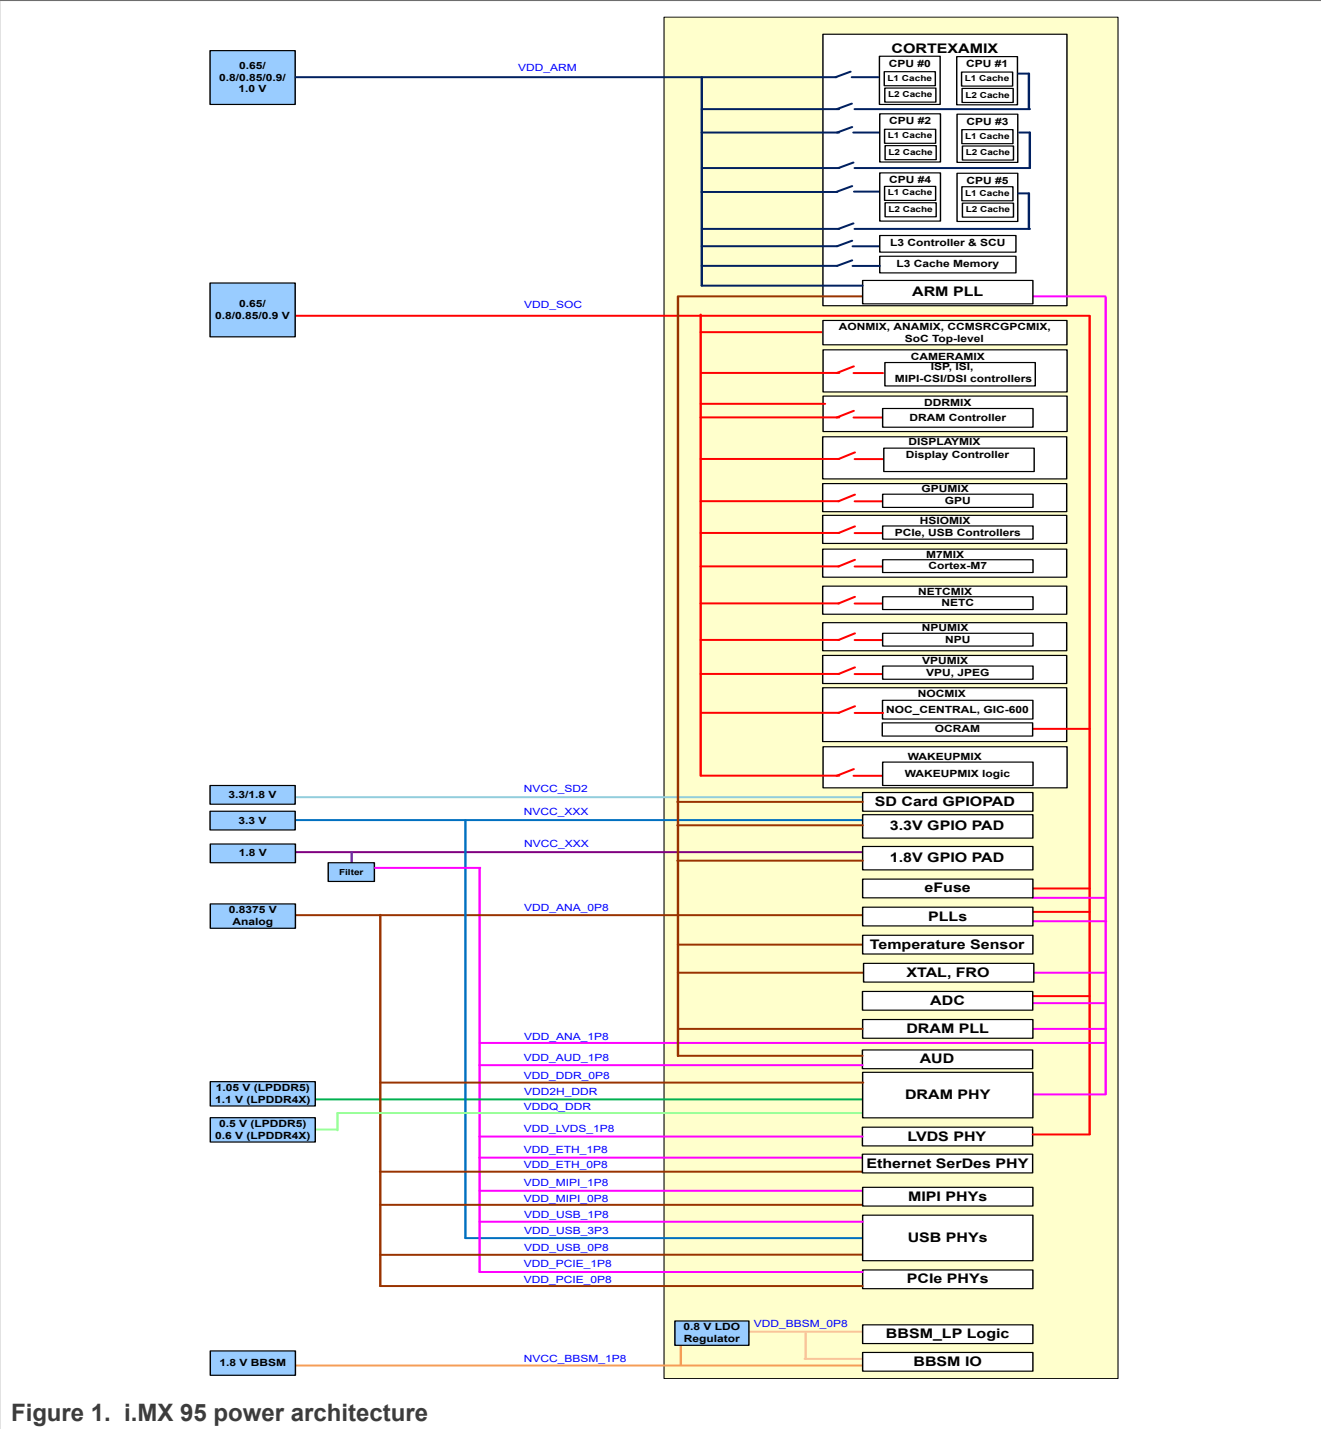

Figure 1. i.MX 95 power architecture
Figure 1 shows the power architecture diagram for the entire SoC.
**Note:** Figure 1 shows only the power supplies and does not show the capacitors that can be required for internal LDO regulators.
The values in Figure 1 are for reference purpose only. For actual data, see the *i.MX 95 Applications Processors Data Sheet for Commercial Products* (document IMX95CEC).